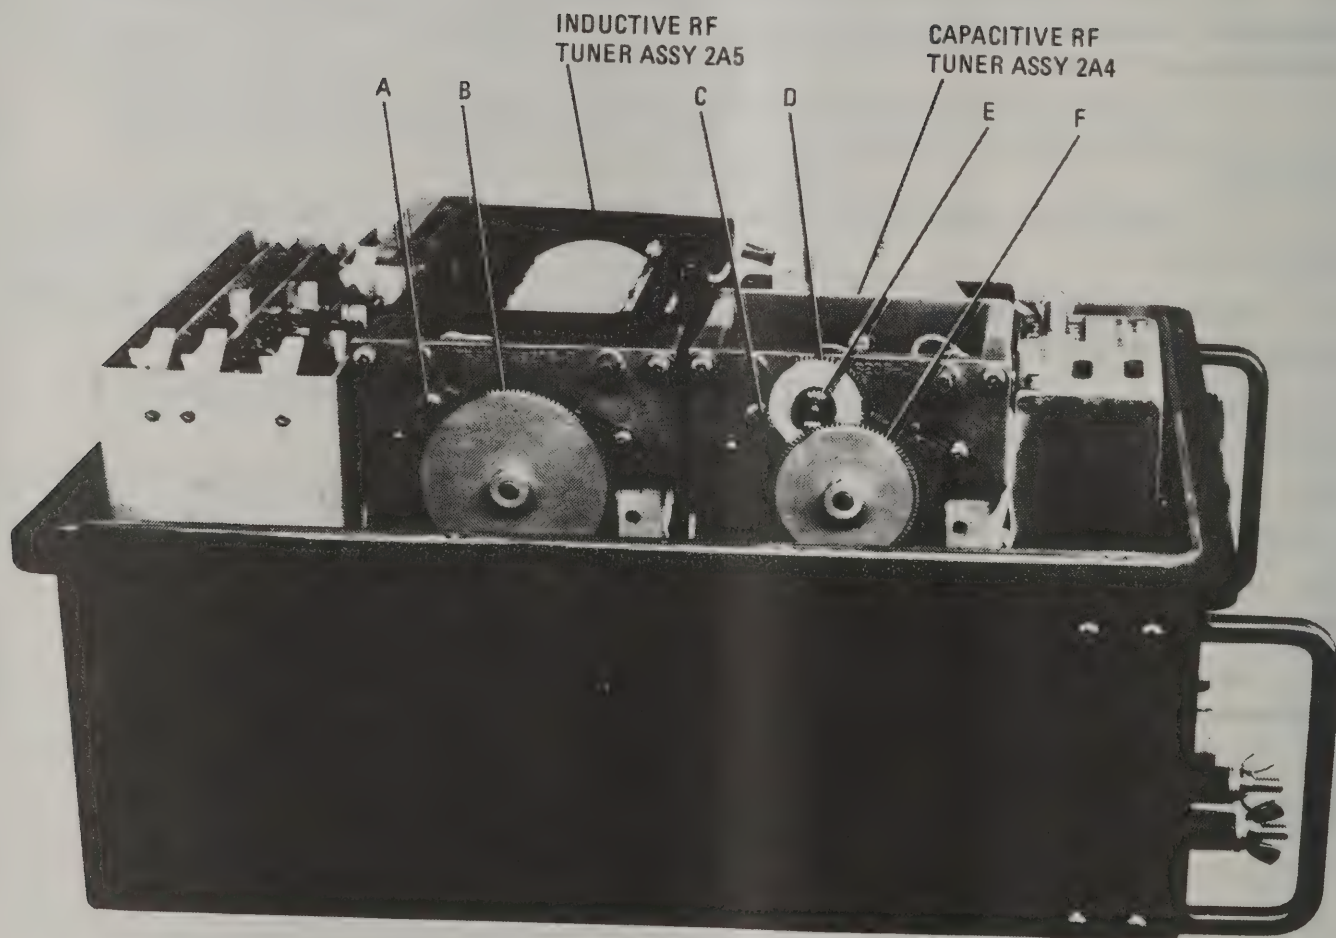

Figure 3-3. RF Tuner Assemblies Lubrication Points
- b. Lubricate gears at the points indicated in figure 3-3 with Lubriplate Grease (RF Spec. No. 755017A8241).